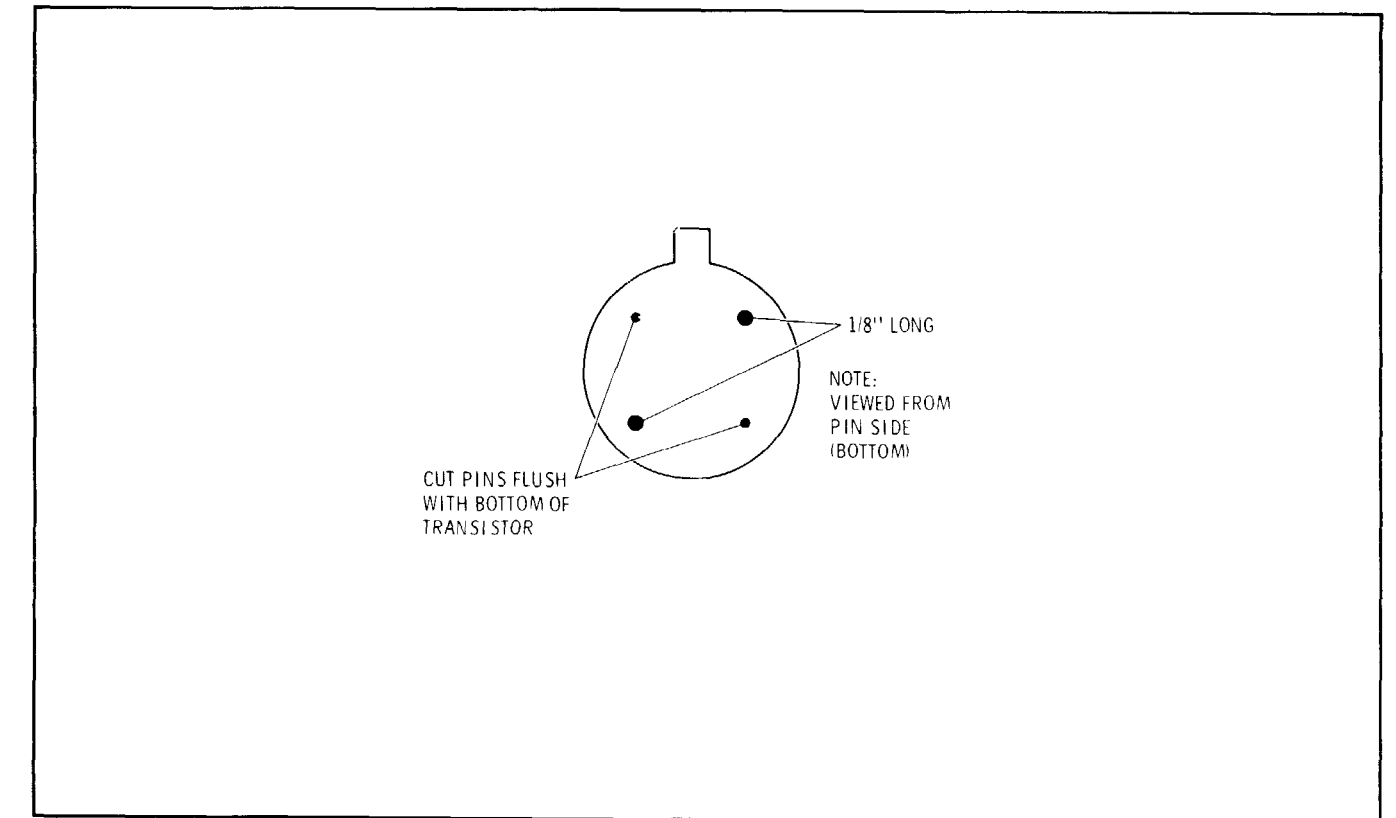

Figure 8-82. RF Oscillator Transistor Preparation
1. Unscrew transistor cap (32).
2. Remove transistor (55).
3. Clip new transistor leads as shown in Figure 8-82.